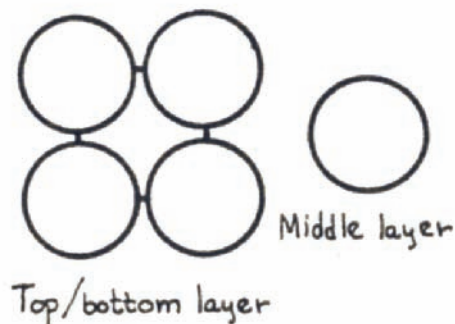

Figure 4.6. Body-Centered Cubic Crystal.
1. The alkali metals barium (Ba) and uranium (U) are atomic crystalline solids. Their atoms pack in a body-centered cubic arrangement. Use nine 2-in.-diameter balls and eight toothpicks to form three layers of a body-centered cubic crystal, as illustrated in Figure 4.6 (the top layer is the same as the bottom layer). Put the layers together like a sandwich. Draw a picture of this atomic crystalline solid.